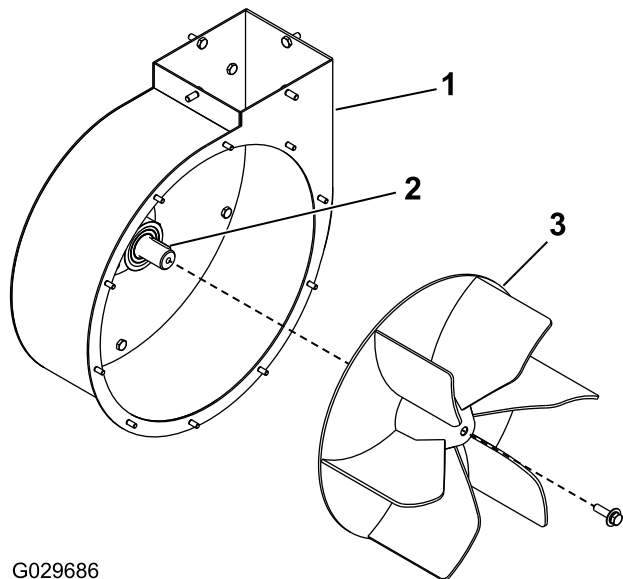

Figure 19
2. Remove the central fastening bolt of the fan (Figure 19).
1. Insert the key into the key groove in the drive shaft (Figure 19) and use a hex bolt (M12 x 100) to press the blade into the drive shaft.